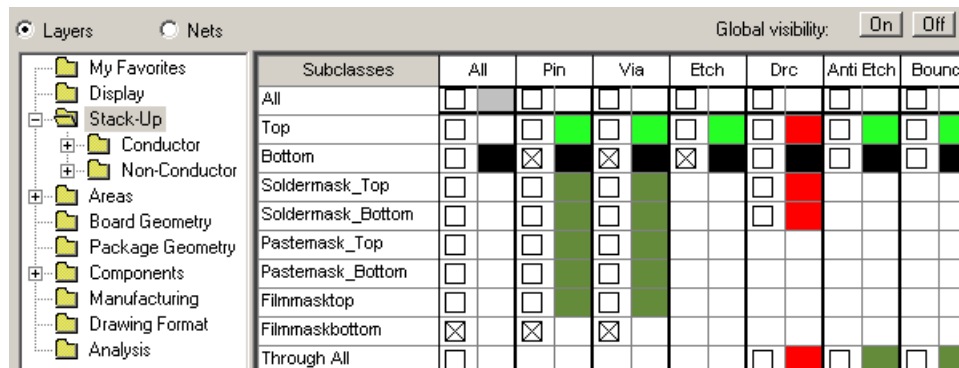

Figure 21. Part of the Color Dialog box, showing the settings for the Stack-Up to plot the bottom layer.
5. This must be repeated for all the features that we wish to print. For the bottom of a PCB these are Stack-Up/Conductor/Bottom/Pin, Via and Etch. Activate and make them black as shown in figure 21 on the preceding page. Click Apply and your tracks appear.